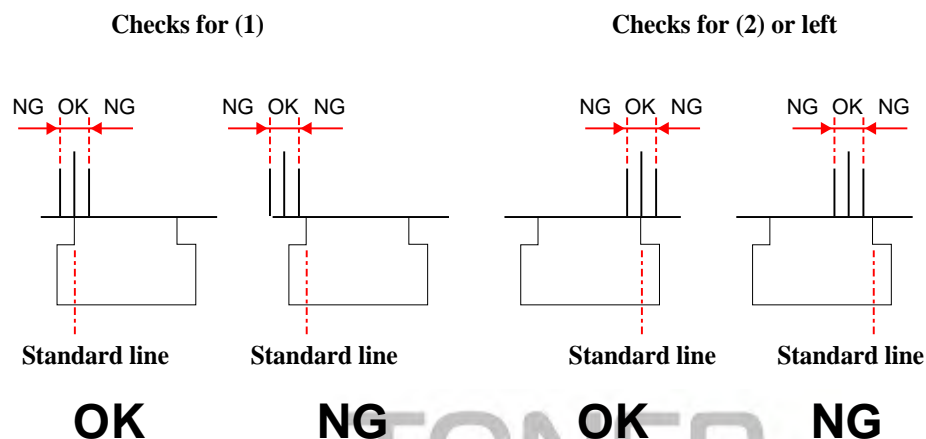

Figure 5-61. Adjustment pattern (zoom)
11. See Figure 5-61 and check if the standard line for the Waste Ink Pad for the borderless printing is within the OK range.